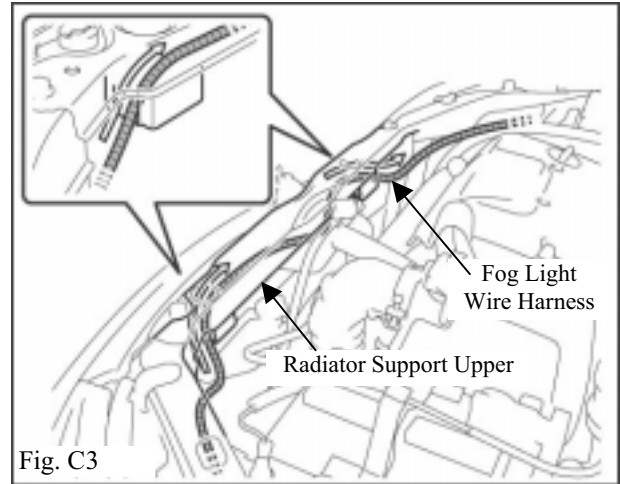

Fig. C3
- ➔ 5. Route the fog light wire harness through inside of the radiator support upper to right side. (Fig. C3)